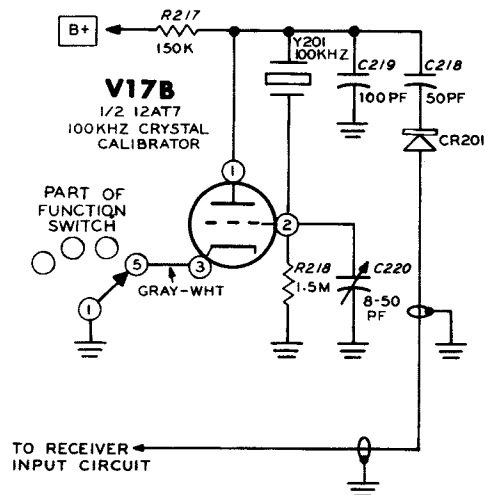

Figure 2-28
**CRYSTAL CALIBRATOR (Figure 2-28)**